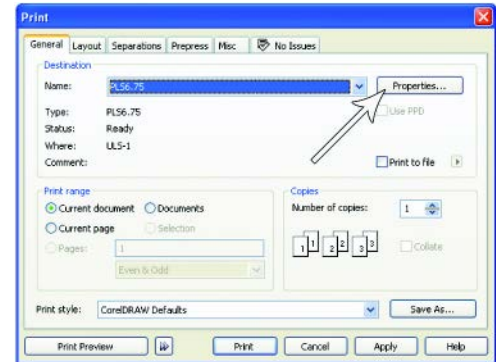

Figure 4
2. When you are ready to print the job, select PRINT from the CorelDRAW FILE menu. Make sure that your laser system printer driver appears in the DESTINATION NAME dropdown list, and then click PROPERTIES (Figure 4) to display your laser system printer driver settings (Figure 5).
7. Now Select PRINT in the Print dialog window (Figure 4).